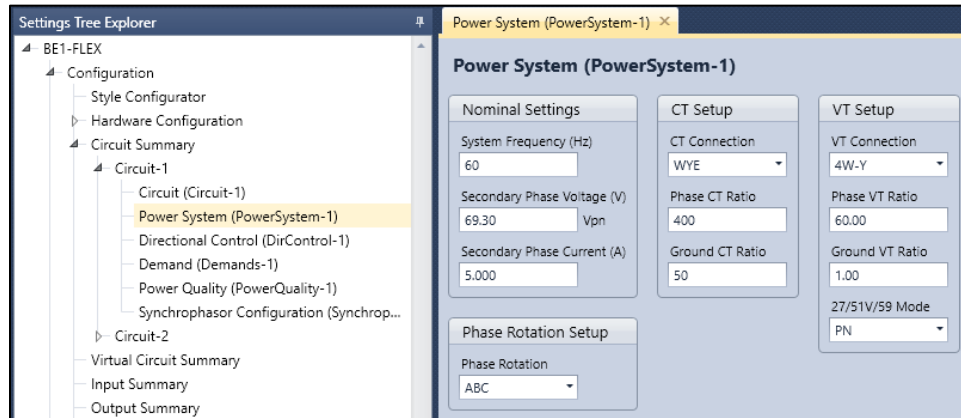

Figure 2-13. Power System Screen
Step 8: Under Circuit, Power System enter (confirm) settings for Secondary Phase Voltage (69.3 V) and Secondary Phase Current (5 A). Set Phase CT Ratio to 400, Ground CT Ratio to 50, VT Connection to 4W-Y, and Phase VT Ratio to 60. See Figure 2-13. Update Directional Control parameters from the Directional Control screen if using 67 functions and default settings are not valid.